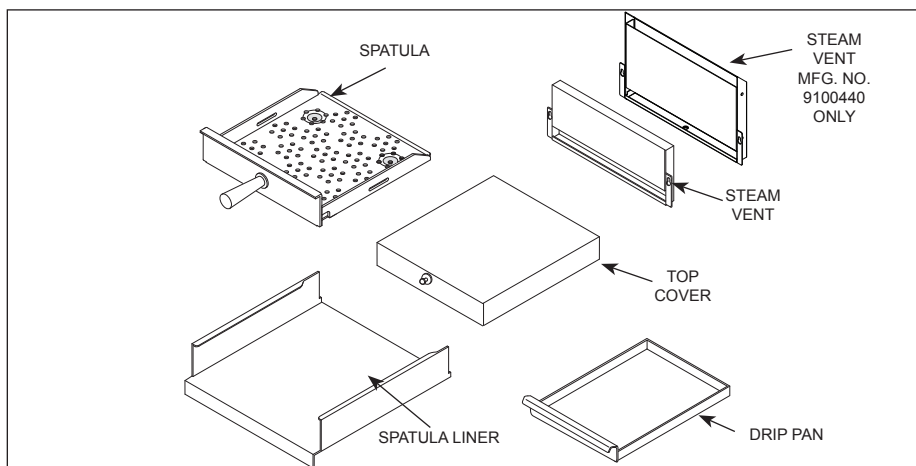

Figure 9. Daily Cleaning-MS-250
4. **MS-250:** Remove the Spatula, Spatula Liner, Drip Pan, Top Cover, and Steam Vent (Figure 9).